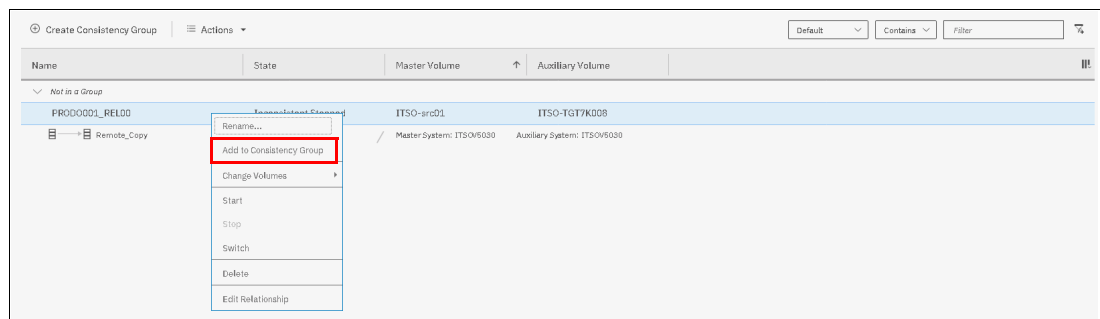

Figure 10-103 Add to Consistency Group
3. Select the relationship to move to the Consistency Group, right-click **Add to Consistency Group**, as shown in Figure 10-103.